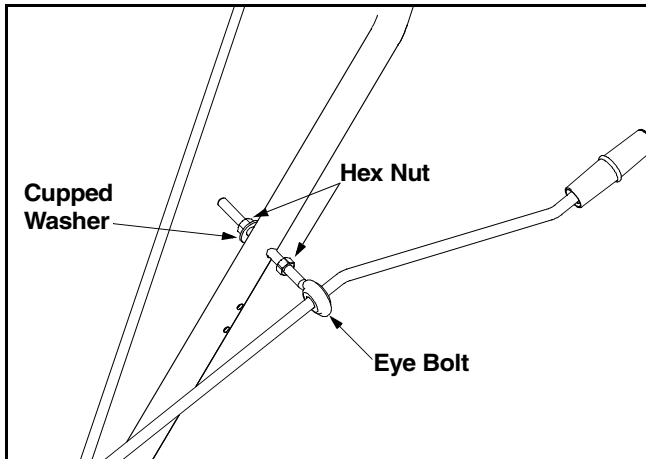

Figure 11
- Insert eye bolt through the hole provided in the left handle. See Figure 11.